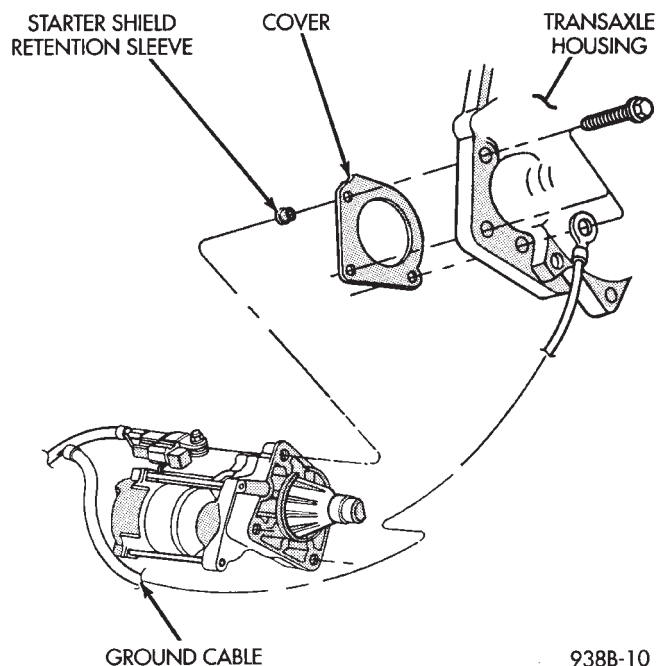
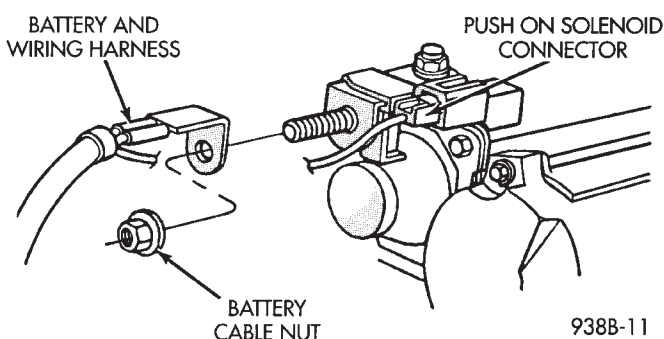

Fig. 5 Starter—3.3L Engine
Fig. 6 Wire Terminal Connections
- (2) Raise vehicle.
- (3) For easier servicing, do not remove the wiring from starter at this time.
- (4) Remove three starter attaching bolts from engine/transaxle (Fig. 5).
- (5) Remove starter/starter solenoid assembly from engine. Position the starter to gain access to the wiring connectors.
- (6) Remove the positive battery cable and wiring terminal nut (Fig. 6).
- (7) Disconnect push on solenoid connector.
- (8) Remove the starter from vehicle.
- (9) For installation, reverse above procedures. Clean corrosion/dirt from the cable and wire terminals before installing wiring to the solenoid.